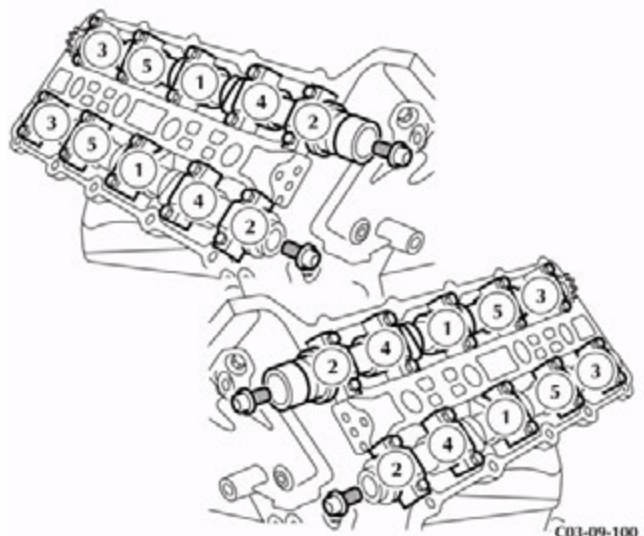

Figure 3
4. Install and torque the ten bolts in the sequence shown in Figure 3.